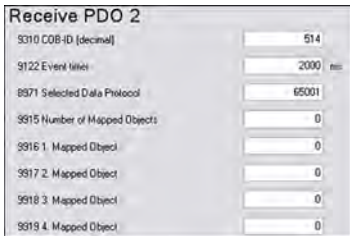

Fig. 175: RPDO configuration for 2nd IKD 1 (example ToolKit)
- ⇒ Set up RPDO2 for the easYgen in ToolKit as shown in (Fig. 175).